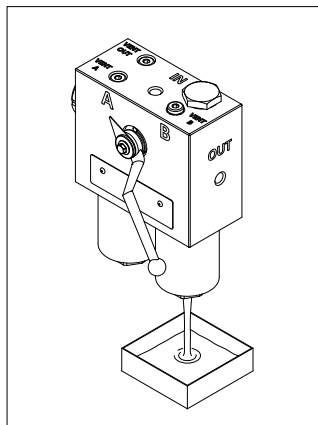

fig. 7
- (Fig. 7) Drain the operating fluid from the bottom of the bowl into the collection vessel